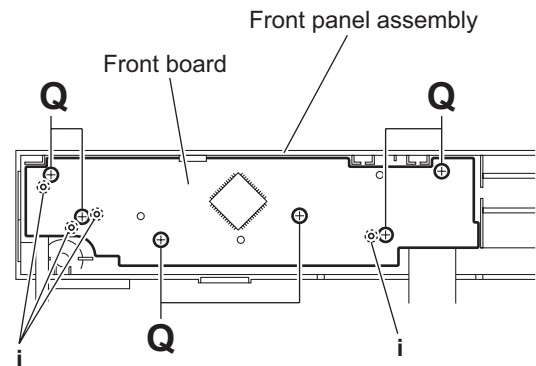

Fig.19
- From the inside of the front panel assembly, remove the six screws **Q** attaching the front board. (See Fig.19.)
When attaching the front board, align the projections **i** of the front panel assembly to the holes of the front board. (See Fig.19.)